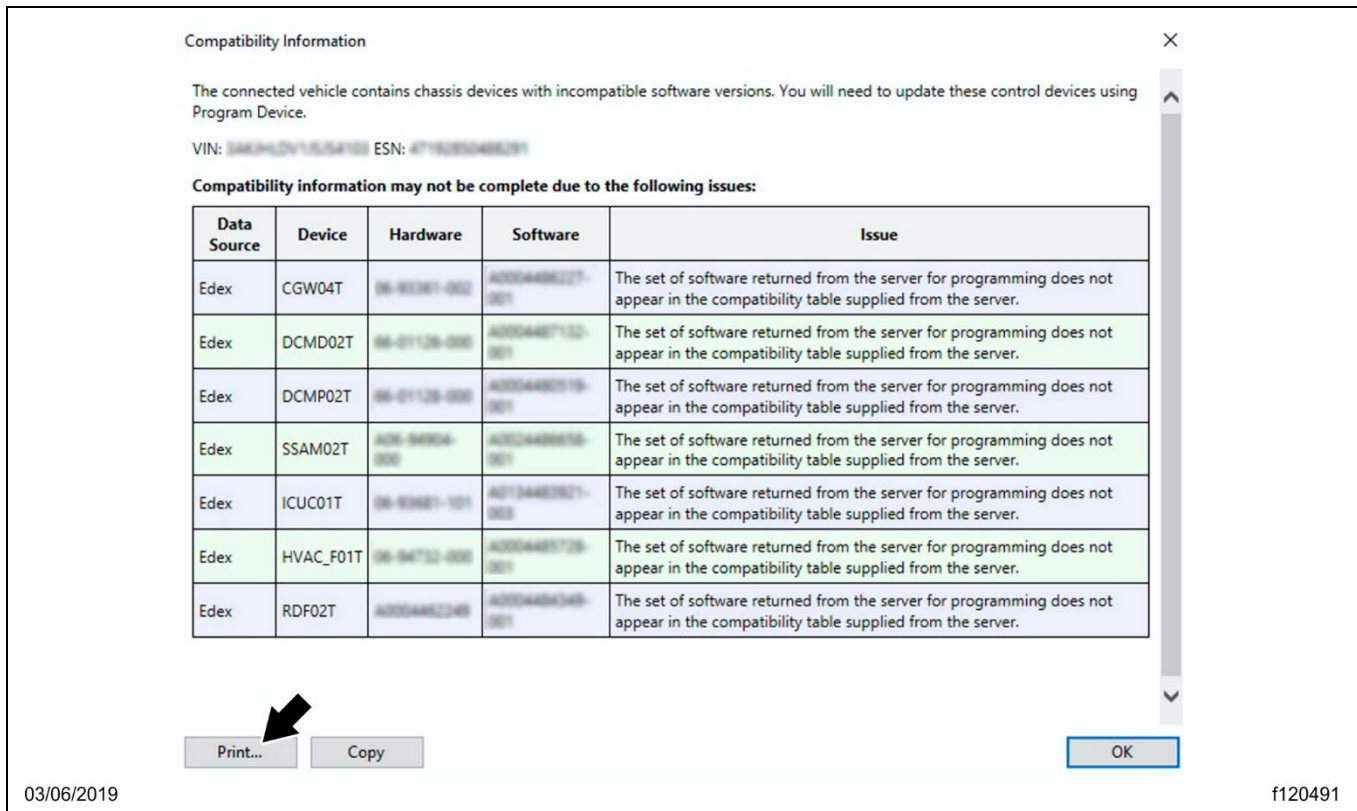

Fig. 22, Printing the List of Incompatible Chassis Devices (ECUs)
7.15. Print or take a screenshot of the incompatible chassis devices (ECUs). See Fig. 22.